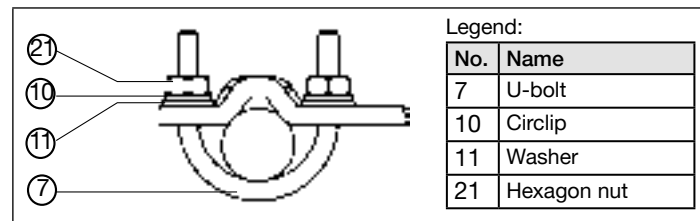

Fig. 10: Attach Type 8792/8793 with mounting bracket; for actuators with columnar yoke
- Attach mounting bracket to the columnar yoke with the U-bolt ⑦, washers ⑪, circlips ⑩ and hexagon nuts ②① (see "Fig. 10").